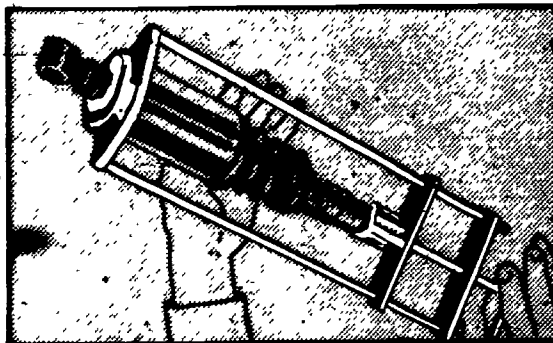

Figure 2
- B. Compress the shock absorber spring until the springs retainers can be removed (Figure 2)